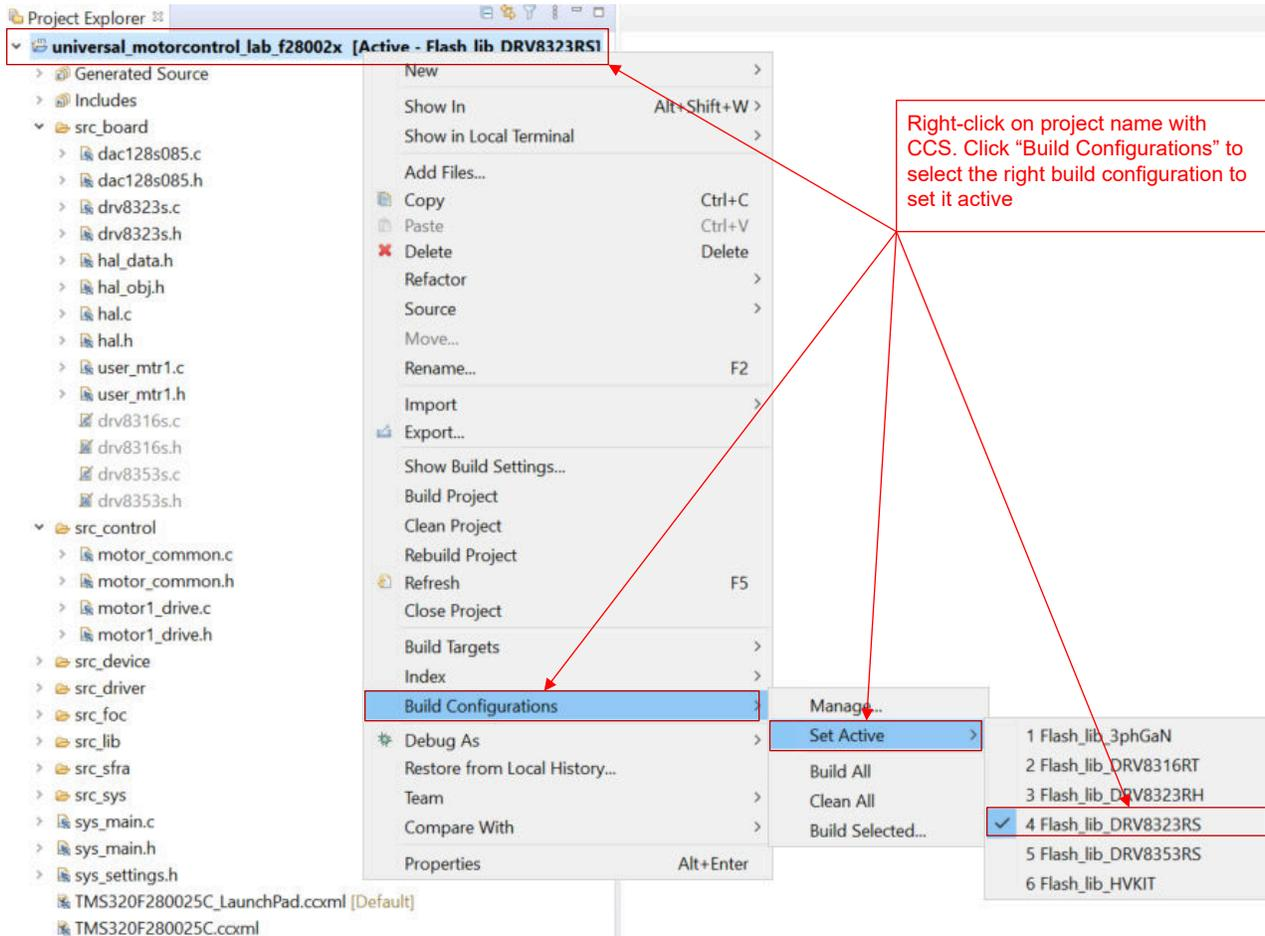

Figure 3-18. Select the Right Build Configurations within CCS
2. The lab project can be configured to run on a variety of motor driver kits. You can select one of these kits by right-clicking on the imported project name and selecting the right build configuration (such as **Flash\_lib\_DRV8323RS\_3SC**) as shown in Figure 3-18.